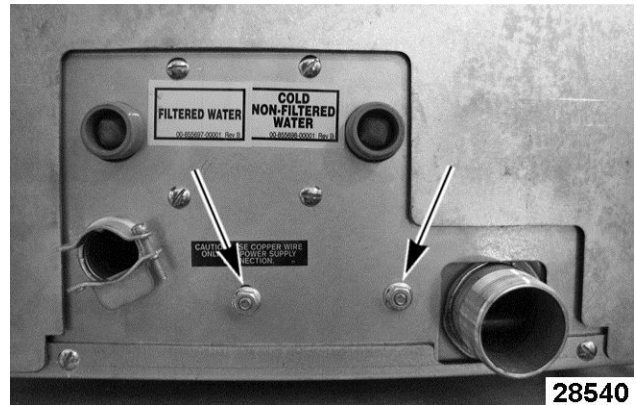

Fig. 27
7. Remove mounting nuts Fig. 27 (qty. 2) securing drain box to valve cabinet bracket at rear of steamer.